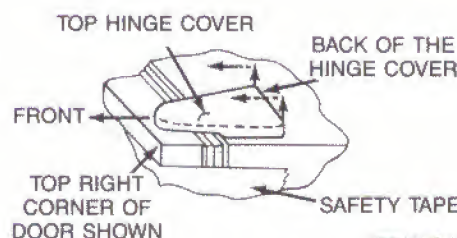

FIGURE 5
- b. Slide the hinge cover toward the front and off hinge. See Figure 5.